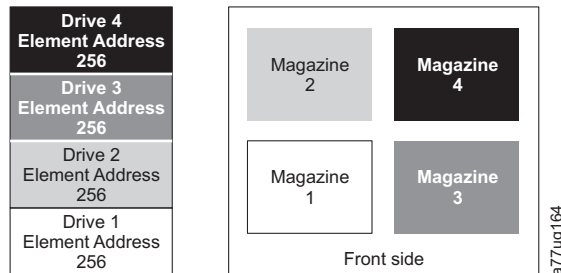

Figure 3-4. Configuration of a four - partition system
- Logical Library 1: Slot1 through 23 4096 (0x1000) through 4118 (0x1016) as shown in Figure 3-4 on page 3-5
When configured with four logical partitions, the Element Address assignments will be as follows: DTE assignments will be as shown in Figure 3-4.